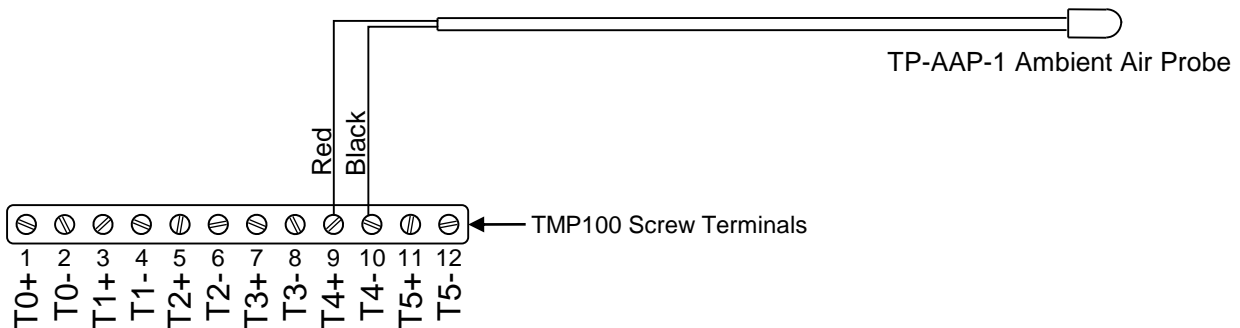

Figure 1 – Wiring Diagram
Please follow these instructions to connect the TP-AAP-1 ambient air temperature probe to the NMEA 2000[®] network via a Maretron TMP100 Temperature Module. The wiring diagram appears in Figure 1 below. The diagram shows a connection to channel #4, but connections to other channels are similar. Please note that the TP-AAP-1 may be connected only to channels #2, #3, #4, and #5. It may not be connected to channels #0 and #1.
2. The TP-AAP-1 cable contains one red and one black wire. Connect the black wire to the appropriate Tx- terminal on the TMP100 as shown in Figure 1 below.
3. Connect the red wire to the appropriate Tx+ terminal on the TMP100 as shown in Figure 1 below.